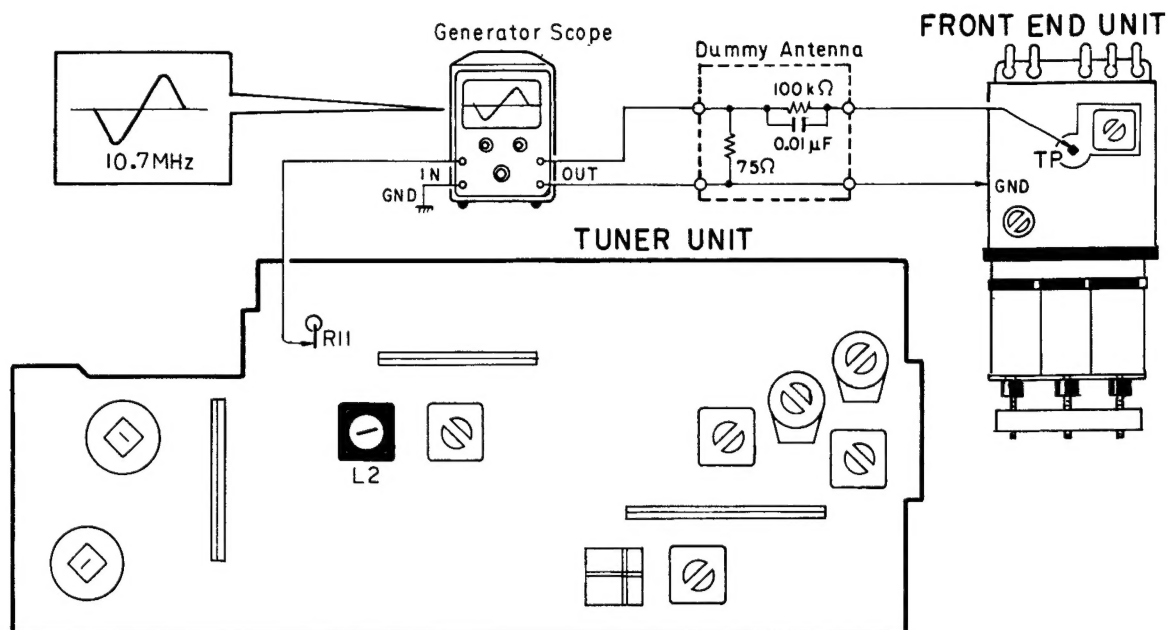

Fig. 2
2. A waveform shown in Fig. 2 is obtained on the generator scope when the hook-up is made as illustrated above and the power source is applied to.